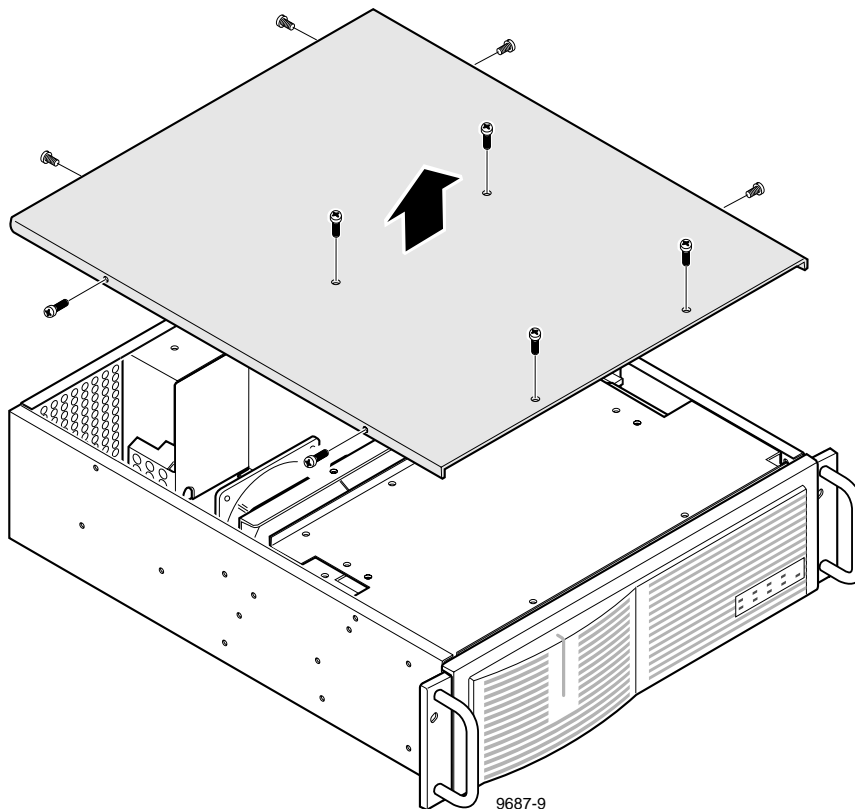

Figure 3-8. PDX218 Top Cover Removal
Figure 3-8 shows removal of the top cover, which must be removed to access the interior for removal of other parts. To remove the top cover, refer to Figure 3-8 and:
2. Remove the top cover (Figure 3-8).
6. Replace the top cover (Figure 3-8).
4. Replace the top cover (Figure 3-8).
5. Replace the top cover (Figure 3-8).
5. Replace the top cover (Figure 3-8) and reinstall the PDX218 into the rack.